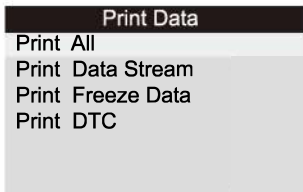

Figure 5.2
4) Use the **UP/DOWN** scroll button to select **Print Data** from **Main Menu** in the scan tool, and press the OK button. (Figure 5.2)